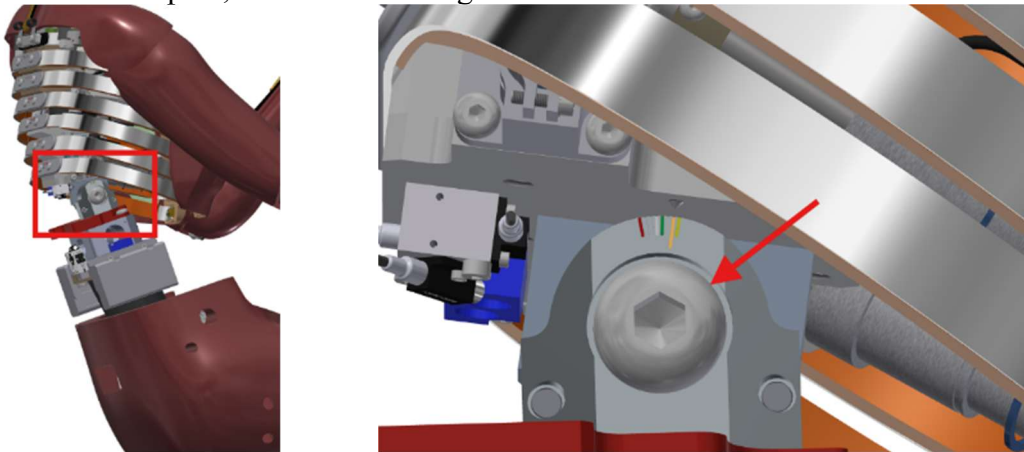

Figure 6-58. Lumbar spine pitch change mechanism adjustment SHCS (M12)
- 6.6.2 Locate the M12 X 1.75 X 45 mm SHCS on the right side of the lower spine, as indicated in Figure 6-58.